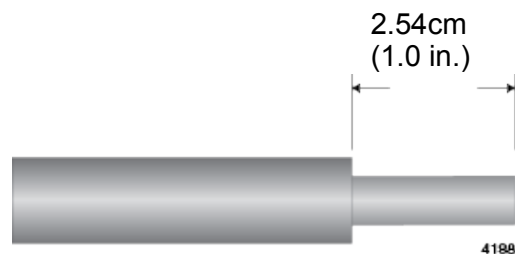

Figure 60. Stripping the Grounding Wire
1. Strip 2.54cm (1.0 in.) of insulation from the end of the solid grounding wire with a wire insulator stripper. Refer to Figure 60.